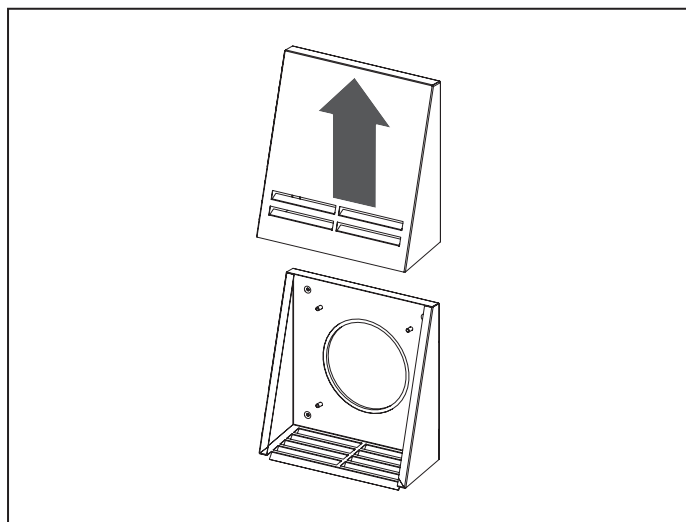

Fig. 14a
- Fig. 14a - models VENTO Ergo A50 Pro and VENTO Ergo A50-1 Pro. Remove the upper part of the outer ventilation hood.